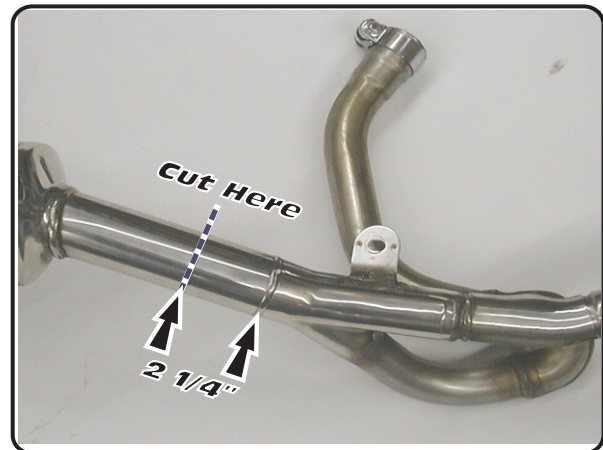

Fig. 4
- 4 Use cutting tool to cut muffler 2 1/4" from the weld (See Fig 4 & 5). After muffler has been cut bevel or sand smooth any sharp edges or protuberances on pipe.